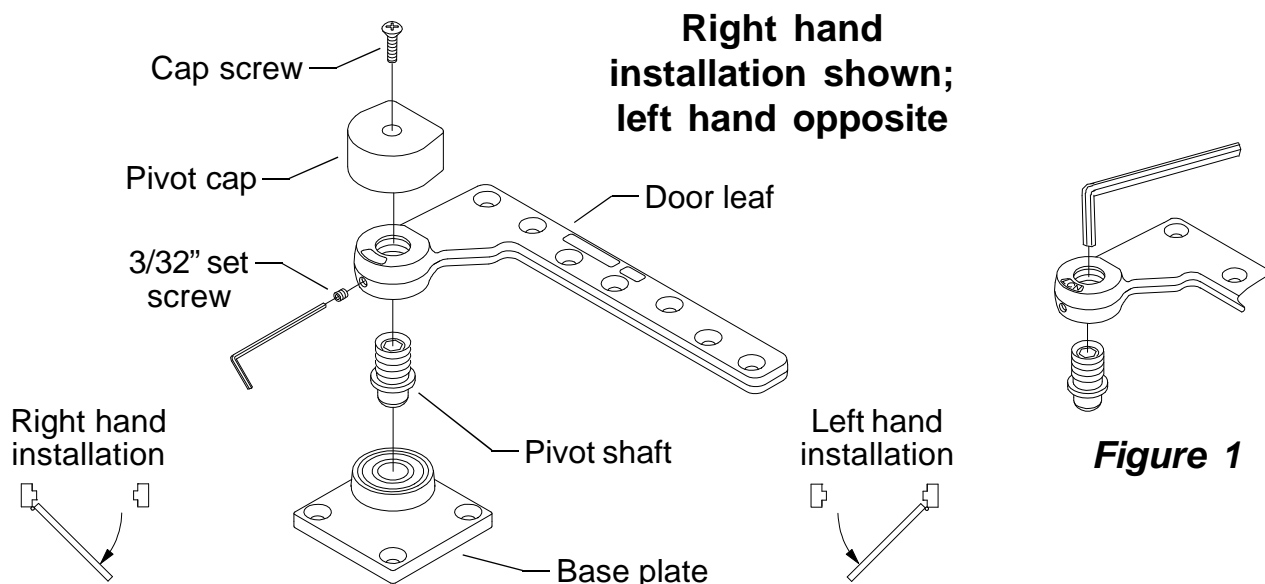

Figure 1
- B. Use 5/16" Allen wrench to adjust pivot shaft height as needed (Figure 1).